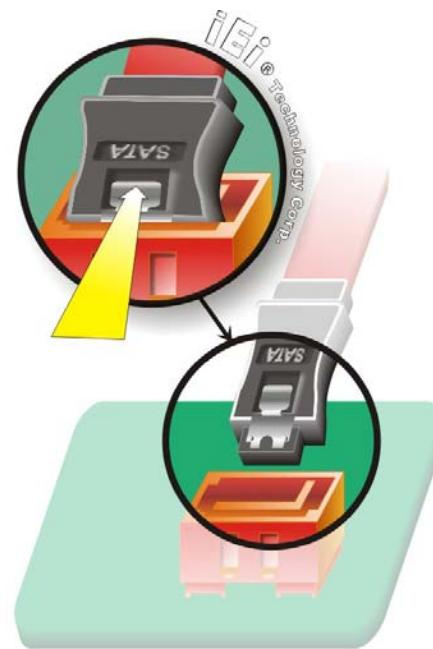

Figure 4-13: SATA Drive Cable Connection
Step 2: Insert the cable connector. Press the clip on the connector at the end of the SATA cable and insert the cable connector into the on-board SATA drive connector. See **Figure 4-13**.